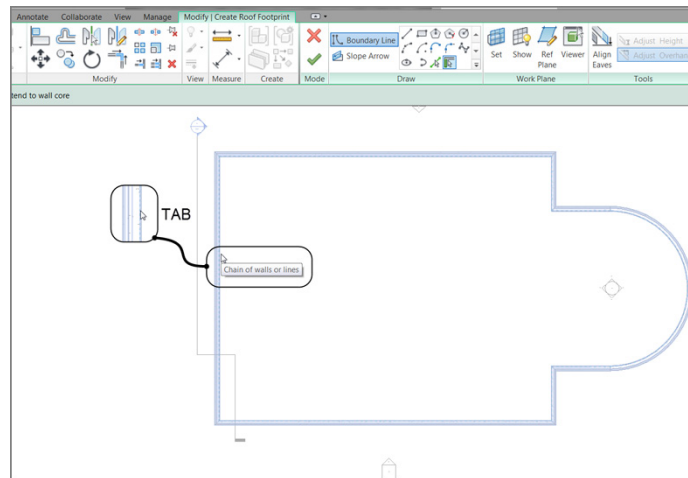

FIGURE 7.3 : Adding a sketch line to the perimeter of the building by picking walls
9. On the Modify | Create Roof Footprint tab, be sure the Pick Walls button on the Draw panel is selected, as shown at right in Figure 7.3.
13. Hover your pointer over the leftmost vertical wall. When it becomes highlighted, press the Tab key on your keyboard. All the perimeter walls highlight. When they do, pick (left-click) anywhere along the wall. This places a magenta sketch line at the perimeter of the building (see Figure 7.3).